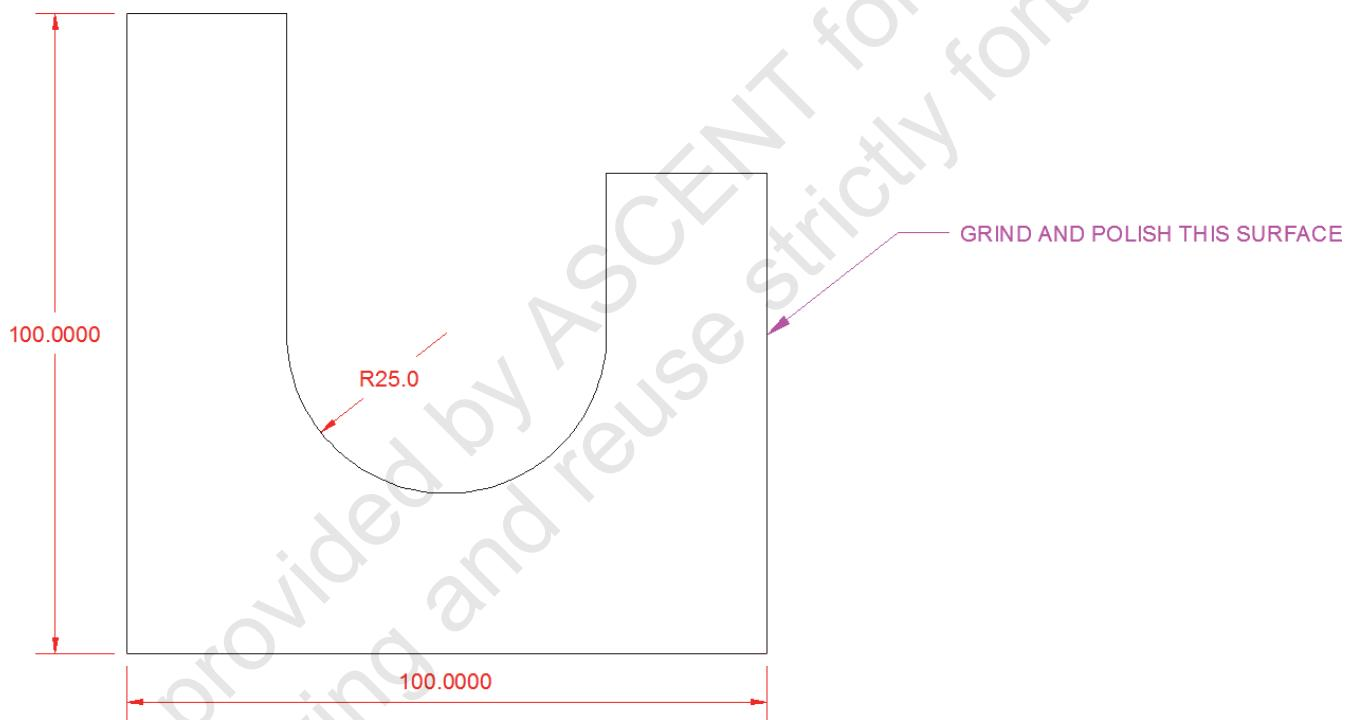

Figure 1–1
In this practice, you will draw, edit, and dimension a simple cross-section using a variety of tools (such as drawing aids and shortcut menu options), as shown in Figure 1–1. The purpose of this practice is to familiarize you with the style of the practices in this guide and to review how to use the AutoCAD software.
13. Create a linear dimension on the bottom of the object and a radius dimension on the arc, as shown in Figure 1–1. When you are done dimensioning, press <Esc> to end the dimension command.